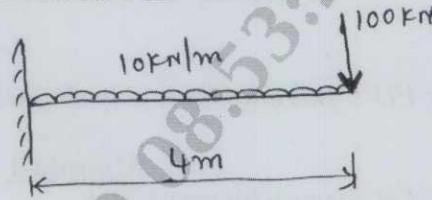

Fig. Q5 (b)
b. For the beam element shown in figure Q5 (b), determine the displacement and slope at the free end. Take  $E = 70 \text{ GPa}$ ,  $I = 4 \times 10^{-4} \text{ m}^4$  (08 Marks)